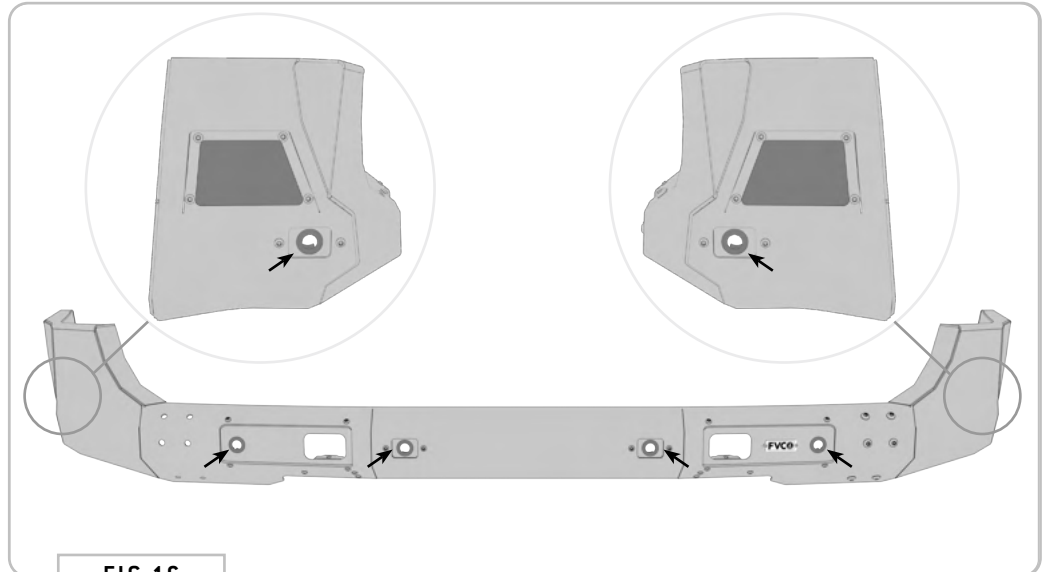
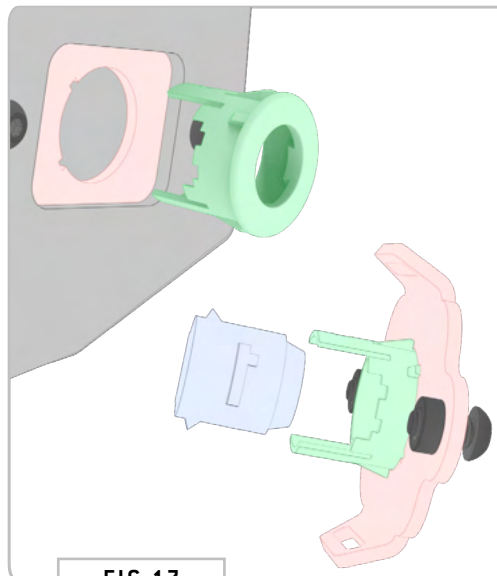

FIG 16
FIG 17
3.2 Install Park Sensor Bezels: Install the plastic **Park Sensor Bezels** to the locations shown in FIG 16. Install by aligning the notches in the **Park Sensor Bezel** to the cutouts in the **Bumper** (FIG 17).
NOTE - The orientation of the **Bezel** corresponds to the direction in which the **Park Sensor** will be installed. See FIG 17 to observe how the molding of the **Park Sensor** aligns to the cutouts in the **Bezel**.